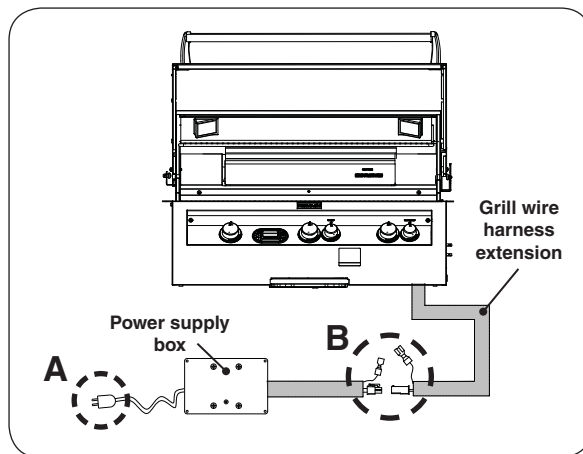

Fig. 16-2 Disconnect grill connections
1. Locate the power supply box inside of the island enclosure and disconnect the power cord (See Fig. 16-2, **A**).
2. Disconnect the grill wire harness extension connectors from the power supply connectors. See Fig. 16-2, (**B**)